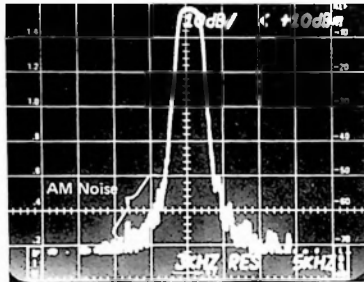

Fig. 26. Residual Am Noise Measurement
- Check the residual am noise with a high-frequency spectrum analyzer such as the 7L12 or 7L13. Tune to the unmodulated carrier using 10 dB/div and 3 kHz RESOLUTION. Using the 300 Hz VIDEO FILTER, note any humps in the noise floor around the carrier, indicating noisy low level stages in the transmitter as shown in figure 26.